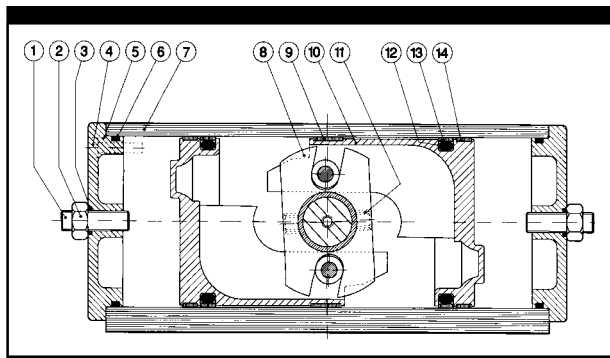
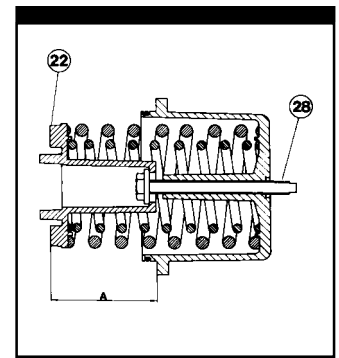
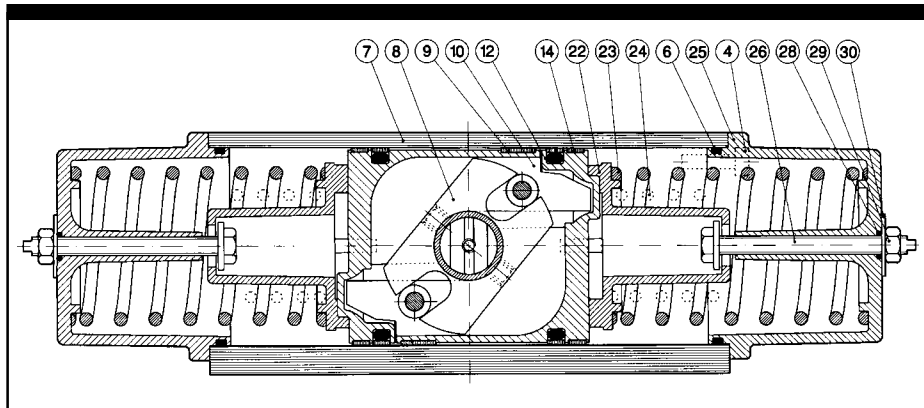

Figure 1 - RC 200-DA from above
Figure 4 - Spring Pack Pretensioning
Figure 3- RC 200-SR from above
The pistons of standard Type DA Actuators are mounted as shown in figure 1. This provides for the highest torque at the "closed" (CW) valve position for valves that rotate clockwise to close. The pistons are then in their outermost position and the end of travel stop (yoke turning angle) can be fine adjusted $\pm 3^\circ$. To enable this adjustment to be done in the "open" (CCW) valve position, turn the pistons 180° about their axis as shown in Figure 3.
The pistons of standard Type SR Actuators are mounted as shown in Figure 3. Although spring force is diminished, the geometry of the mechanism provides a greater torque at the end of the spring stroke than at mid stroke. When the actuator is in the "Open" valve position (Springs fully compressed), the end of travel stop, (turning angle), can be fine adjusted $\pm 3^\circ$.
4. Confirm that the springs are fully extended as shown in figure 3. This can be confirmed by observing that the flats on the top drive shaft are 90° to the actuator axis on a "Fail Close" (fails CW) when viewed from the top of the actuator and parallel to the axis on a "Fail Open" (fails CCW) when viewed from the top of the actuator.
5. Loosen Locknut (29).
6. Rotate tensioning screw (26) counterclockwise until resistance is felt, then turn one more full turn.
7. Remove screws (4).
9. Rotate drive shaft (15) until the pistons are at the end of the cylinder. This can be done by turning the drive shaft with a wrench on the flats or by clamping the shaft between soft jaws in a vise and turning the actuator. Insert two close fitting rods in the holes on the end of the piston and, squeezing them, pull the piston(s) from the cylinder.
12. Rotate piston(s) 180° about their axis and reinstall them as shown in figure 1.
13. Ensure that pistons are lined up so that roller bearing (21) engages scotch yoke correctly. Once pistons are in, rotate shaft 90° to draw pistons in and confirm proper engagement. Pistons should now be in their innermost position. On sizes RC 230 through RC 280, align spring assembly so that one of three support points falls between the bosses on the piston and pins engage holes in the piston.
14. Install screws (4).
16. Tighten locknut (29).
1. Pretension spring assembly using item (26). Refer to Table 1 and Figure 4.
4. Follow instructions above for removing piston(s) (10).
7. Turn pistons 180° about their axis and reinstall them per figure 3.